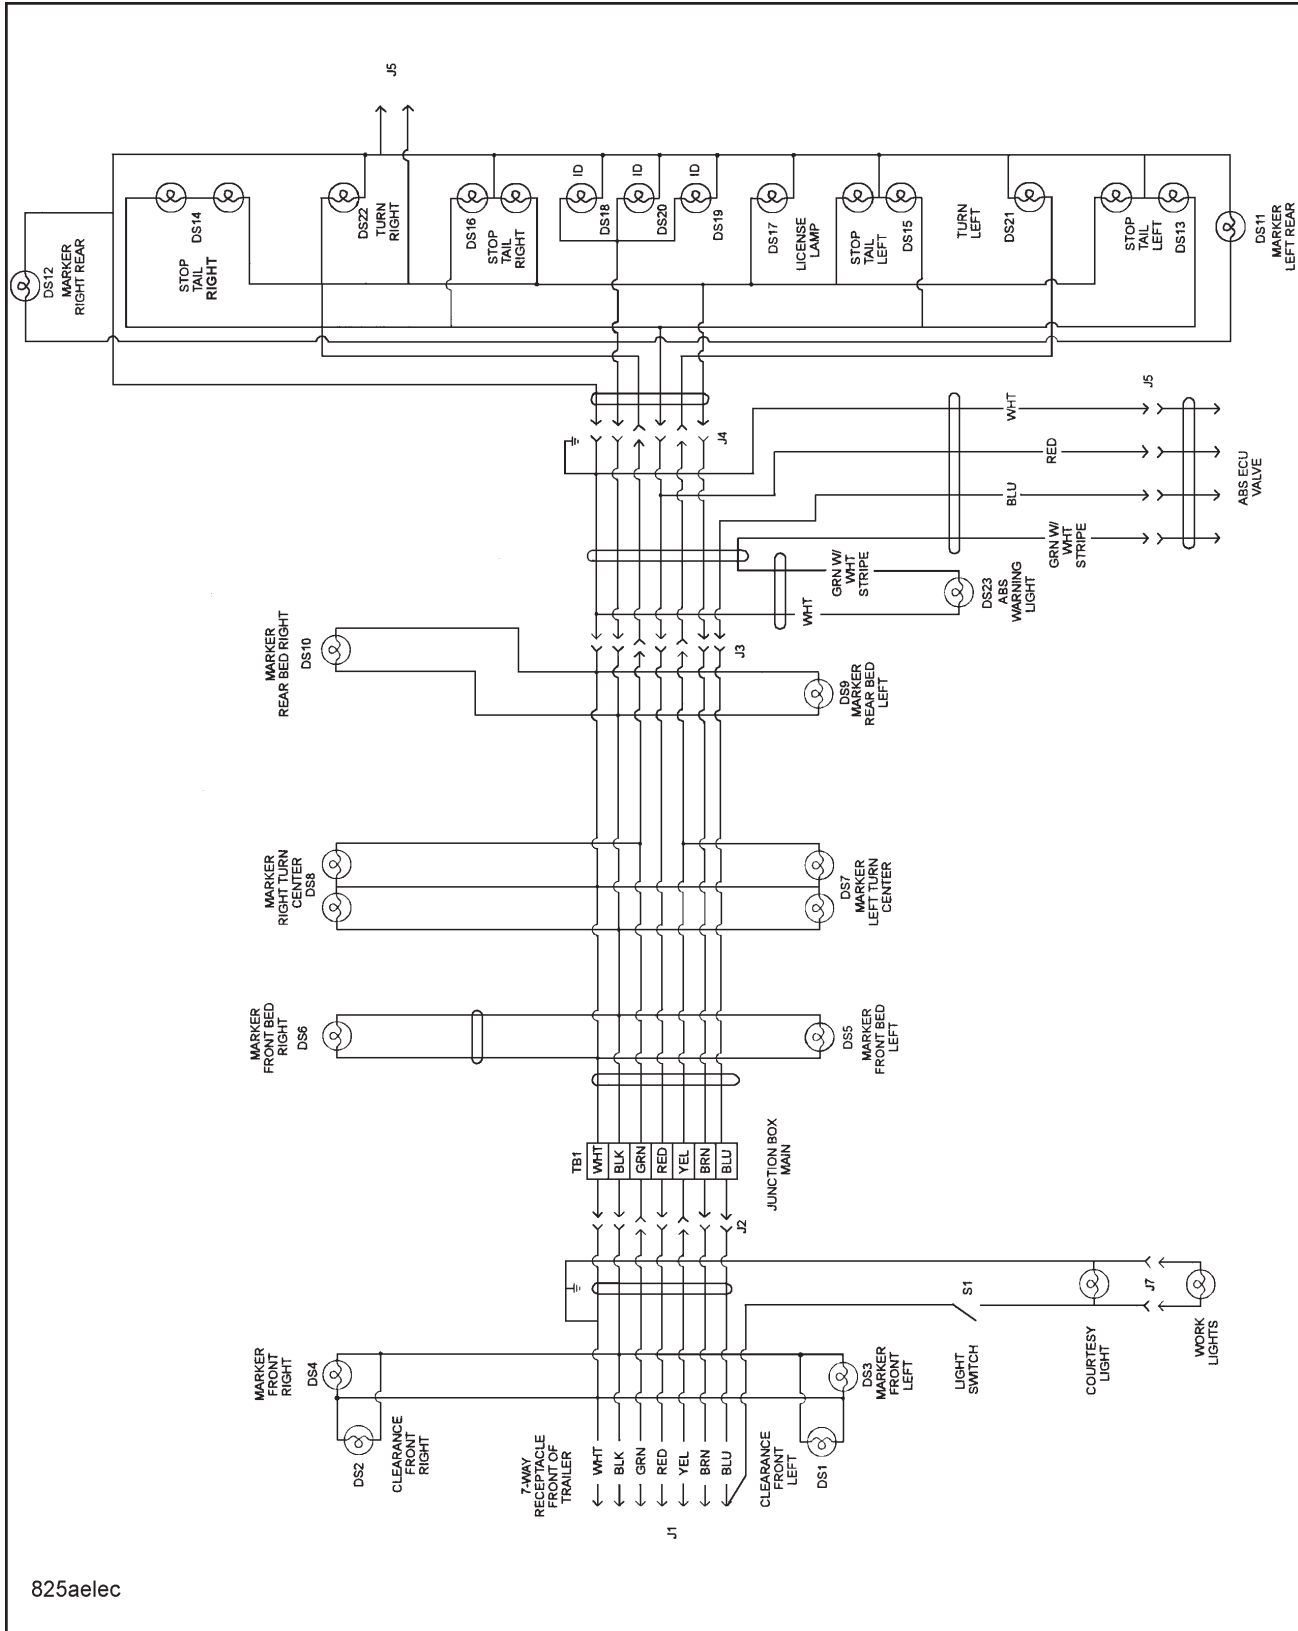

Figure 4-3 Models 325/326/327/329C Wiring Diagram
- 4-5.1** Maintenance of the electrical system consists of inspection and minor servicing. Any wire, connection or electrical component showing signs of corrosion, wear, breakage or unraveling must be repaired or replaced. (See Figures 4-3 and 4-4 for electrical wiring diagram).